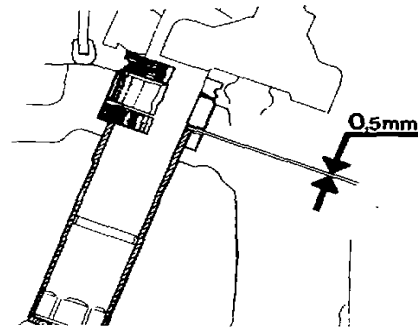

Fig. 142.
14. Feed the steel ring onto the tool 6647 (without the stem and flaring pin) and tap the ring carefully down into the cylinder head. NOTE! The distance between the steel ring and the copper sleeve should be 0.5 mm (0.02") (fig. 142). Check the gap with a angled feeler gauge.